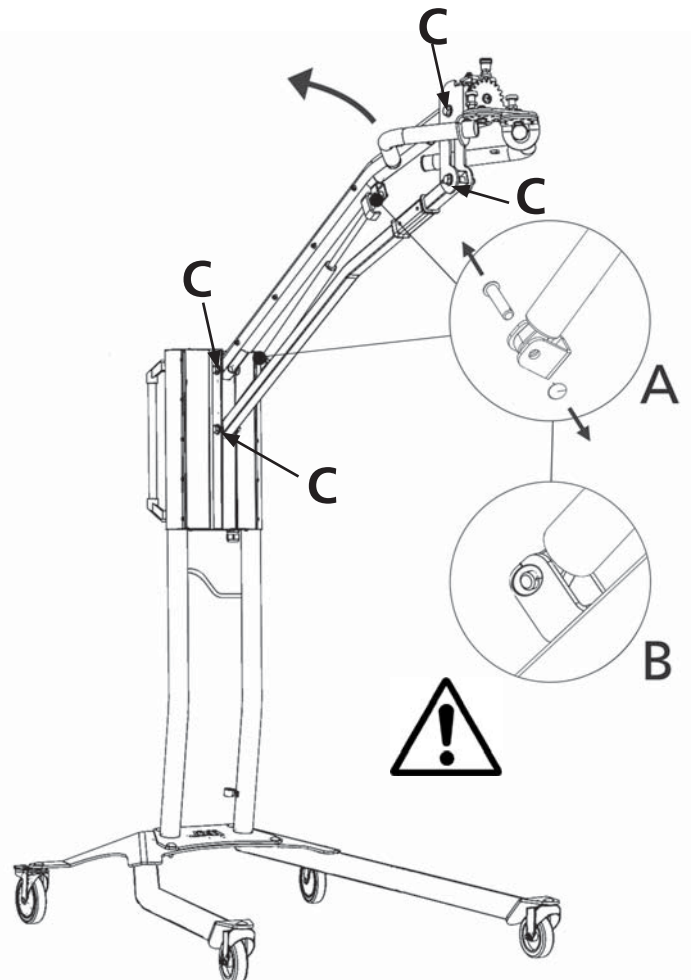

Figure2
If the mobile dryer does not park in highest or lowest position but falls or raises slightly by itself, tighten the 4 bolts indicated with the letter "C" in fig 2.
2. Place the parallel arm in the farthest upright position. (fig 2)
4. Remove the locking rings and the two pins. Move the gas spring slightly upwards/forward and then remove it. (fig 2)